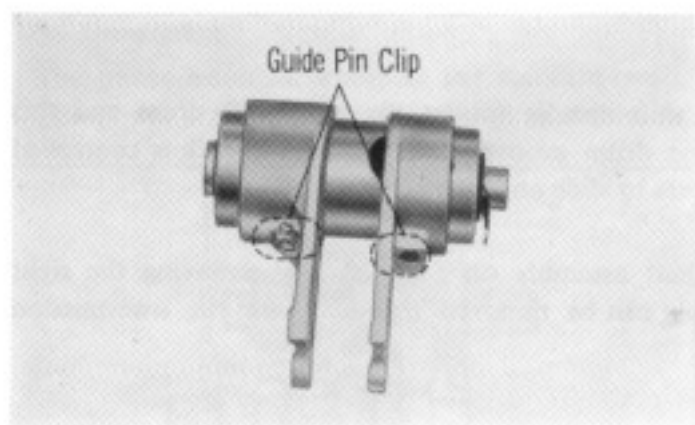

Fig. 52
1. Make sure that the guide pin and guide pin clip are properly installed on the gear shift drum for both the right and left shift forks (Fig. 52).